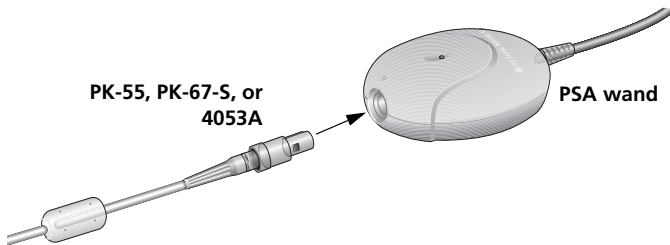

Figure 2-3. Connect the Patient-Cable Adapter to the PSA wand
1. Connect either the St. Jude Medical patient-cable adapter or the Biotronik™-style patient-cable adapter to the PSA wand (Figure 2-3).